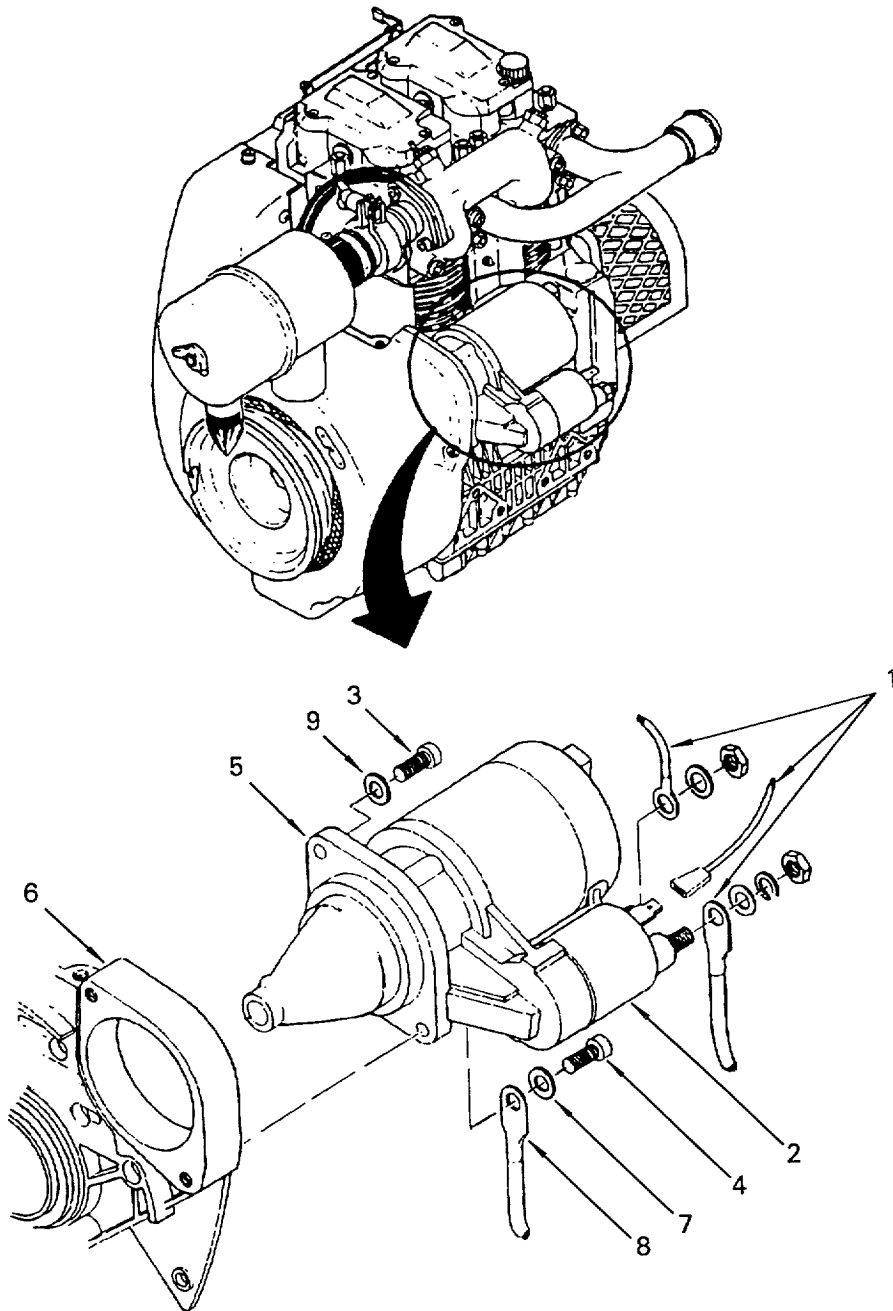

Figure 4-16. Starter Replacement
4.14.1 Replace Starter. (Refer to figure 4-16.)